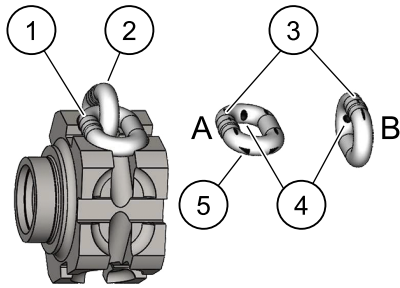

Figure 9. Chain Wear Areas
3. Slack the portion of the chain that normally passes over the lift-wheel (sprocket). Examine the chain links for wear (see Fig. 9). If the wire diameter anywhere on the link measures less than 90% of the nominal wire diameter, replace the chain.